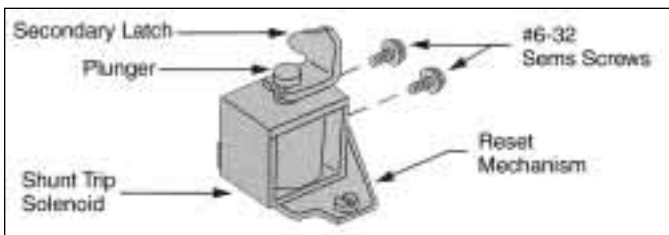

Figure 1. Aligning and Securing the Shunt Trip Solenoid
- 22. Apply the shunt trip accessory label to the left side of the breaker cover (See Figure 1, Page 1). Mark the accessory label on the right side of the cover to indicate that the shunt trip has been installed.
- 23. Replace the breaker cover. Check to ensure that wires exit the breaker through the wire guide and are not pinched by the breaker cover. Replace the 8 cover screws (See Figure 1, Page 1). Torque #10 (corner) screws to 28-32 in-lbs. Torque 1/4" screws to 68-75 in-lbs.
2. Align the shunt trip solenoid on the reset mechanism. Make sure that the secondary latch is positioned inside the groove of the solenoid plunger (Figure 1).
3. Secure the shunt trip solenoid with two #6-32 SEMS screws provided (Figure 1). Torque screws 9 to 11 in-lbs.
2. Remove the breaker cover by removing the (4) #10 Phillips head screws at the corners and the (4) 1/4" Phillips head screws in recesses of the cover (See Figure 1, Page 1).
10. Replace the breaker cover. Check to ensure that wires exit the breaker through the wire guide and are not pinched by the breaker cover. Replace the 8 cover screws (See Figure 1, Page 1). Torque #10 (corner) screws to 28-32 in-lbs. Torque 1/4" screws to 68-75 in-lbs.